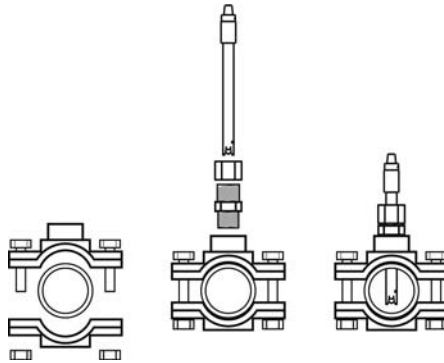

Fig. 8
1. Install the pH and ORP electrode holders in the circuit through ½" saddles (not included with the equipment) (Fig. 8)